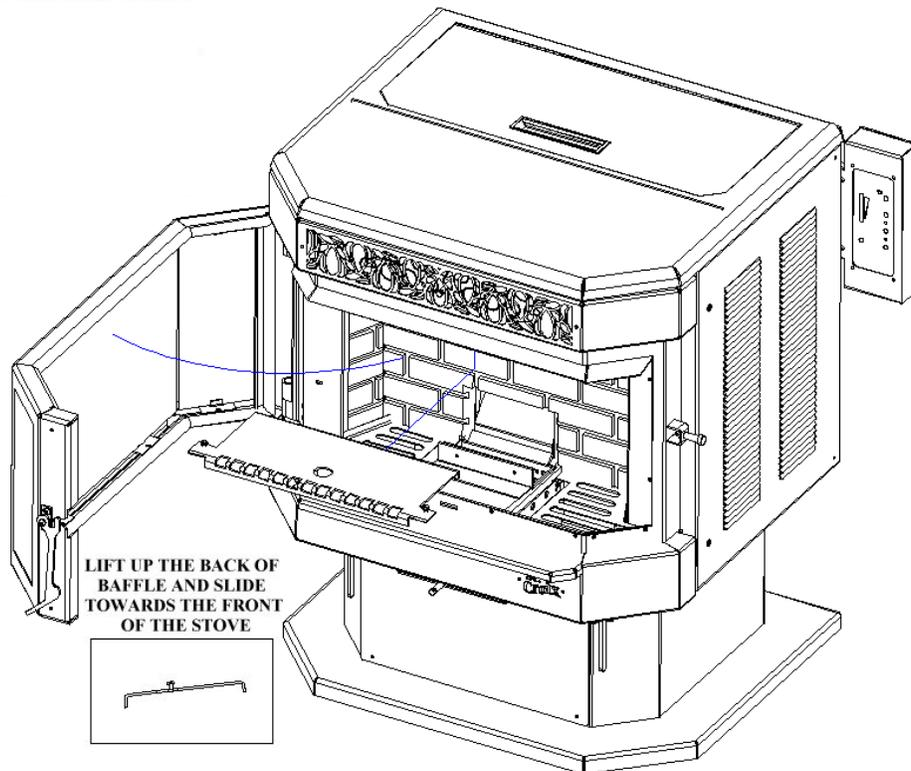

Figure 9
To remove the baffle (See Figure 9), lift the back of the baffle up to clear the inner back of the stove and slide towards the front of the stove. The baffle will slide out of the keyhole slots and drop down. *When putting the baffle back in the stove, make sure the tabs are in the keyhole slots and the back of the baffle is lifted up over the inner back.*
4. The Exhaust & Room Fan should be removed and cleaned annually. Call dealer for this service. Annual oiling of the motors is not needed. (See fig. 9 below for more information.)